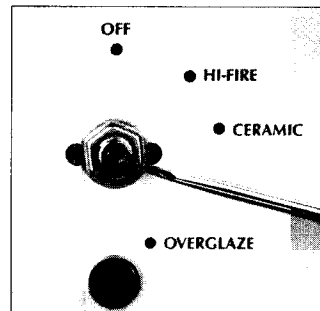

Figure 41
10. Replace switch knob. If knob fits loosely, use a screwdriver to slightly spread slot in switch shaft (see Figure 41).